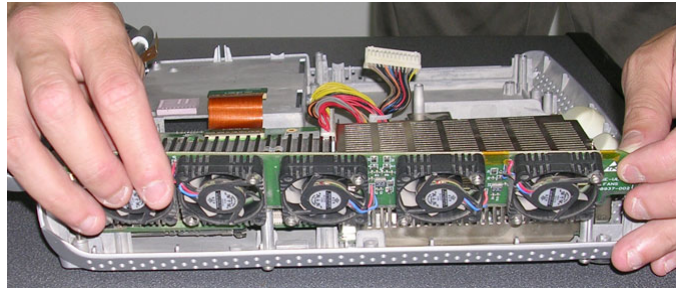

Figure 8-60 Removing the Fan Assembly
- 5) Using both hands, lift the Fan Assembly *upwards* from the *front* and then the *rear* to remove it from the Bottom Assembly; lay it down adjacent to the system, ready for the next step as shown in Figure 8-60 below.
- 2) Using both hands, carefully mount the replacement Fan Assembly into position on the Bottom Assembly - refer to Figure 8-60 on page 8-50.